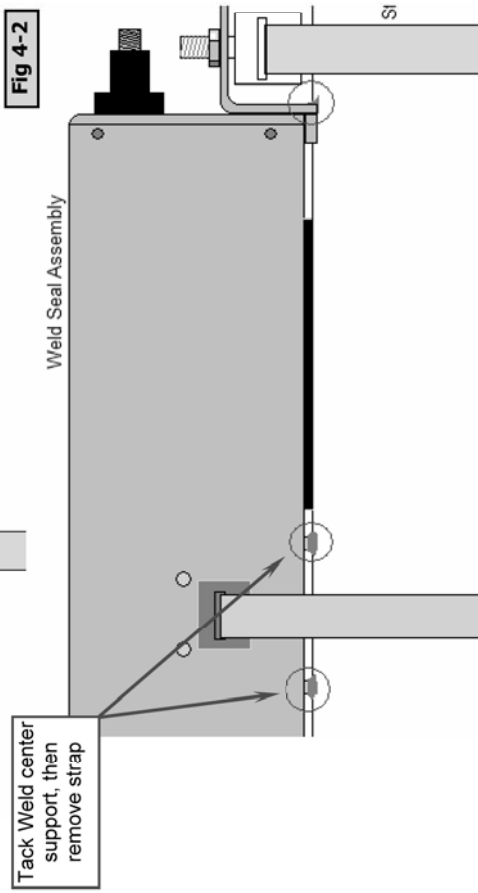

Fig 4-2
- B. Tack weld the center support. **See Fig 4-2**